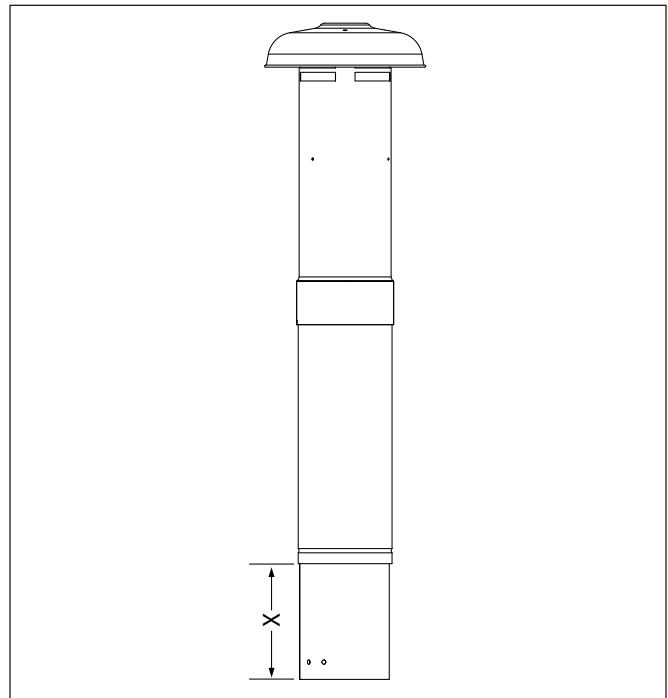

Figure 1. Flue body Length
2. Use Table 2 and Figure 1 to determine the proper length of flue body for your installation.